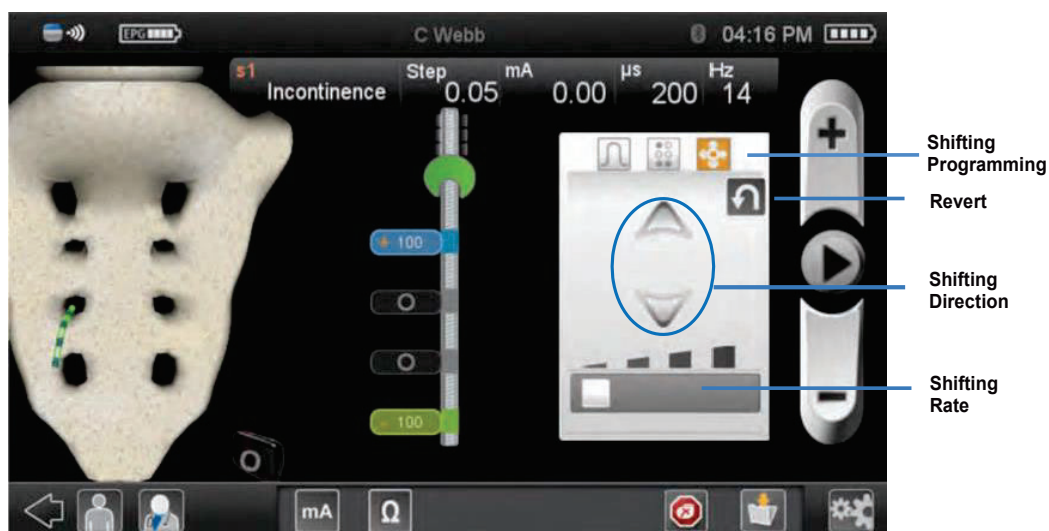

Figure 27. Shifting screen
1. Tap  (Shifting Programming) on the Shifting screen. The shifting options display (Figure 27).